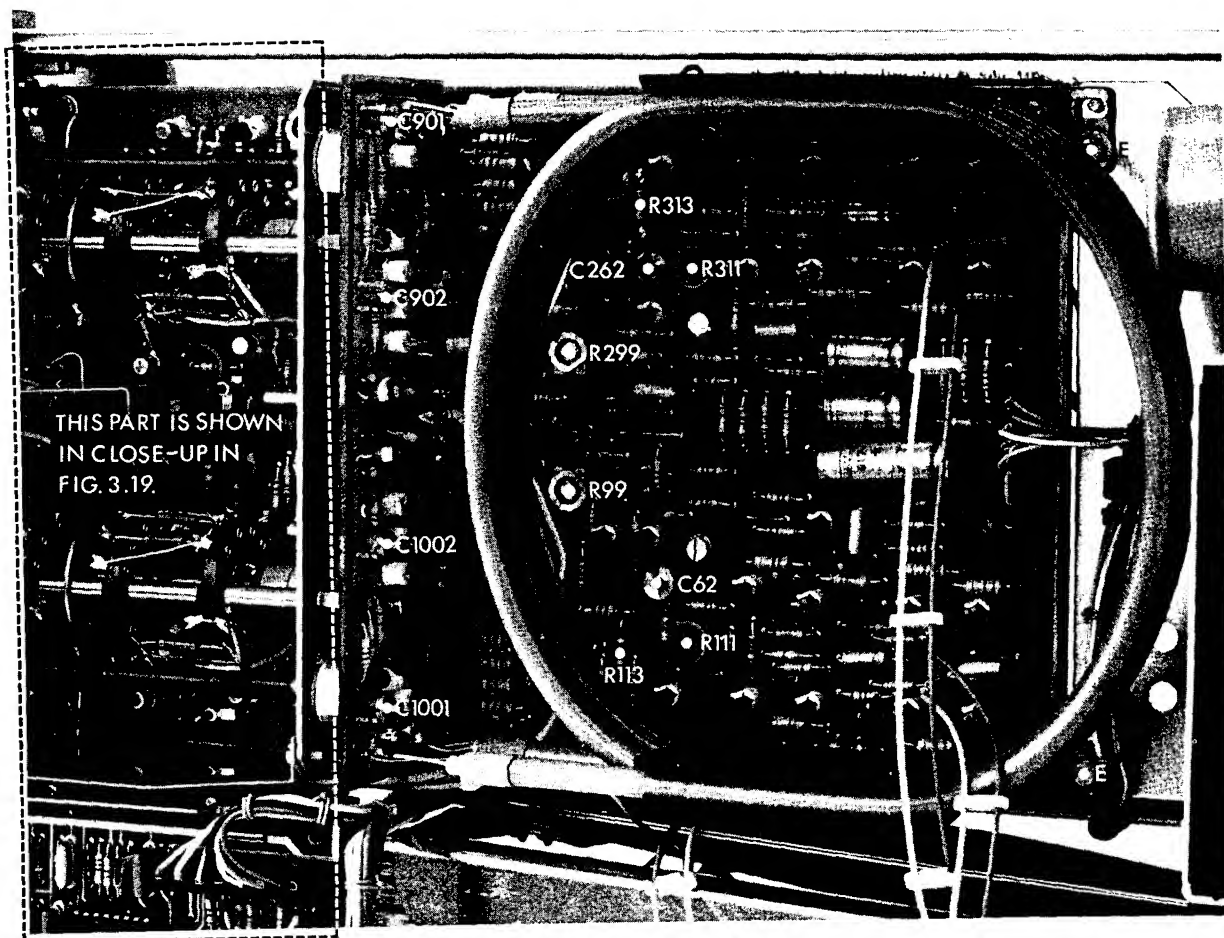

Fig. 3.18. Adjusting and dismantling
- Remove two screws E (Fig. 3.18.).